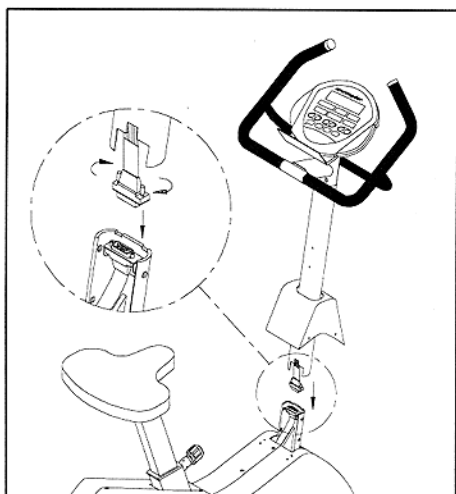

Fig.2
4. Locate the 16 pin cable connector inside the upright post and insert it into the socket of the bicycle frame. Tighten the connector securely by turning both screws pins clockwise (see Fig. 2).